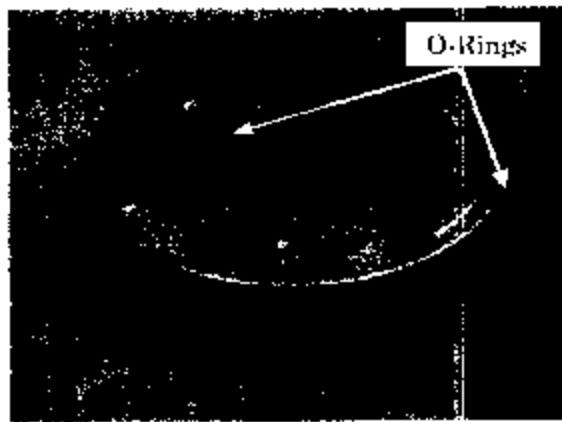

Figure 20
38. Install the inner & outer reverse piston o-rings (8-96014-331-0 inner seal & 8-96014-332-0 outer seal). Lube them with DEXRON®-III with a G-License Number (G-XXXX) (refer to bulletin H303-05-S001 4L30E / H30E Transmission Fluid) or petroleum jelly (see figure 20).
39. Reinstall the reverse piston. Tool is not required to guide the o-rings (see figure 20).